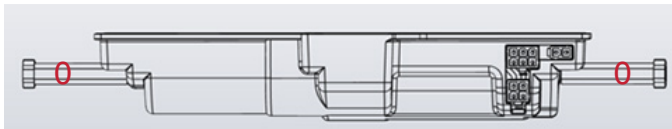

Figure 5. Tool Location for Troubleshooting
- The switching motor is getting power in, but is not outputting power to the rest of the system. This may be due to the slide pins not being in the proper position. Using an 8mm open ended wrench on either side of the switching motor with the seating system in the home position, manually move the switching motor. (See figure 5). The switching motor does not need to move 180-degree turn, just enough to move it the pins slightly and then move back into position.